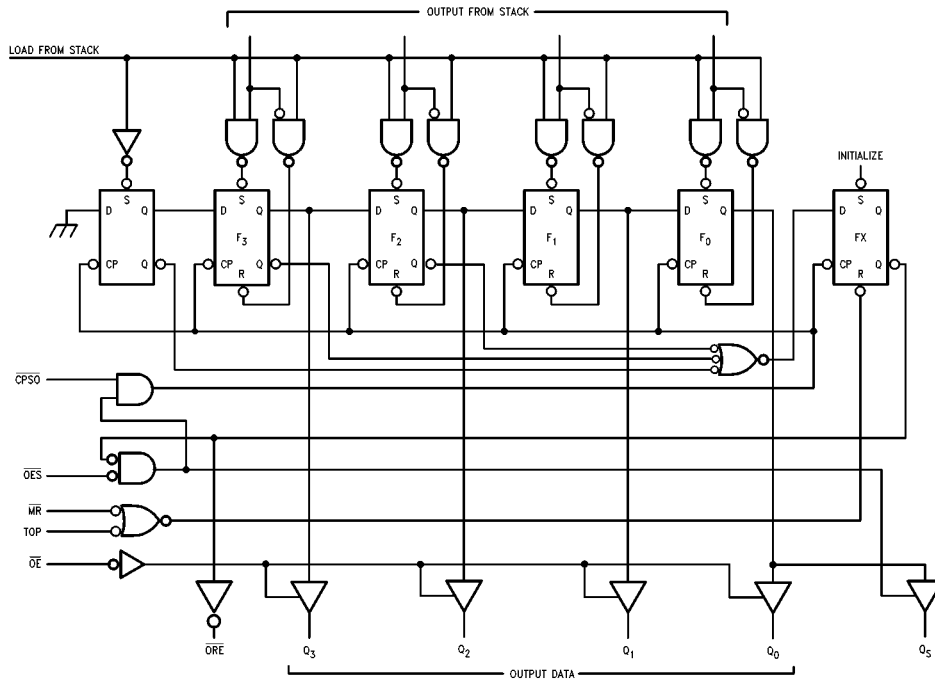

FIGURE 3. Conceptual Output Section
The Output Register receives 4-bit data words from the bottom stack location, stores it and outputs data on a 3-STATE 4-bit parallel data bus or on a 3-STATE serial data bus. The output section generates and receives necessary status and control signals. Figure 3 is a conceptual logic diagram of the output section.
**Serial Data Extraction**— When the FIFO is empty after a LOW pulse is applied to MR, the Output Register empty ( $\overline{ORE}$ ) output is LOW. After data has been entered into the FIFO and has fallen through to the bottom stack location, it is transferred into the Output Register provided TOS is LOW and TOP is HIGH. As a result of the data transfer  $\overline{ORE}$  goes HIGH indicating valid data in the register. The 3-STATE Serial Data Output,  $Q_5$ , is automatically enabled and puts the first data bit on the output bus. Data is serially shifted out on the HIGH-to-LOW transition of  $\overline{CPSO}$ . To prevent false shifting,  $\overline{CPSO}$  should be LOW when the new word is being loaded into the Output Register. The fourth transition empties the shift register, forces  $\overline{ORE}$  output LOW and disables the serial output,  $Q_5$  (refer to Figure 3). For serial operation the  $\overline{ORE}$  output may be tied to the TOS input, requesting a new word from the stack as soon as the previous one has been shifted out.